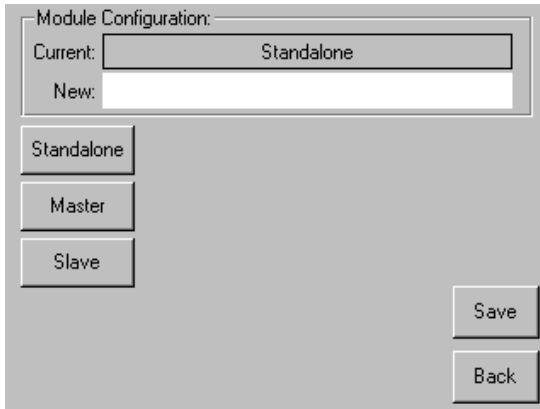

Figure 3-4. Module Configuration screen
5. Select the button next to the Module Configuration menu option and then select the Master button (see Figure 3-4).
5. Select the button next to the Module Configuration menu option and then select the Slave button (see Figure 3-4).